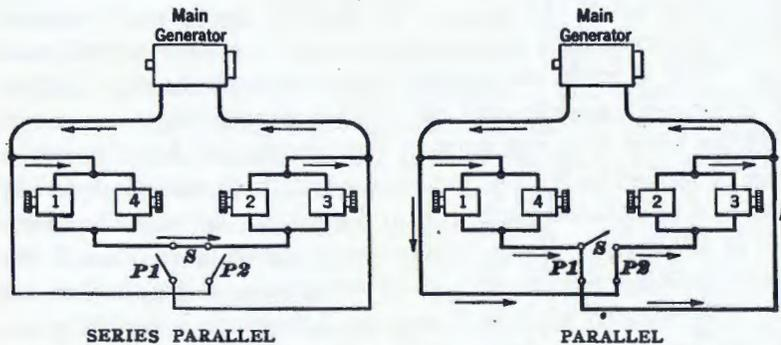

FIG. 6. DIAGRAMS SHOWING TRACTION-MOTOR CONNECTIONS
The traction motors of an E.M.D. freight locomotive unit are arranged in pairs as shown in the diagram Fig. 6. The No. 1 and No. 4 traction motors are permanently connected in parallel as are the No. 2 and No. 3 traction motors. Hence, the series connection mentioned in Art. 14 is in reality a series-parallel connection. Each traction motor, when connected
17. **Traction Motor Contactors.**—The *P1*, *P2*, and *S* contactors, shown in Fig. 6, are open in the off-position of the transition lever. When the transition lever is placed in No. 1 position and the throttle is opened, the *S* contactor, closes and